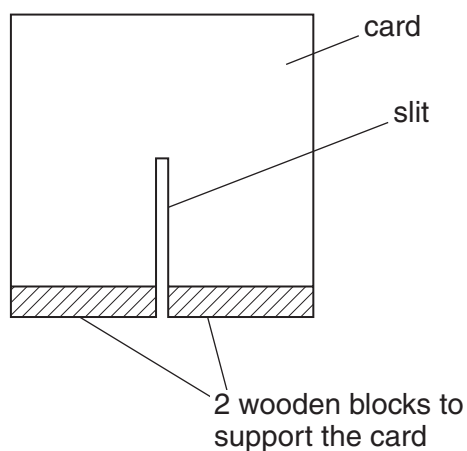

Fig. 1.1
- (ii) The card and the screen should be supported so that they can stand perpendicular to the bench. This should be done by attaching blocks of wood to the base of the card and the screen. The slit must not be obscured so two blocks should be used, one each side of the slit. This is shown in Fig. 1.1.